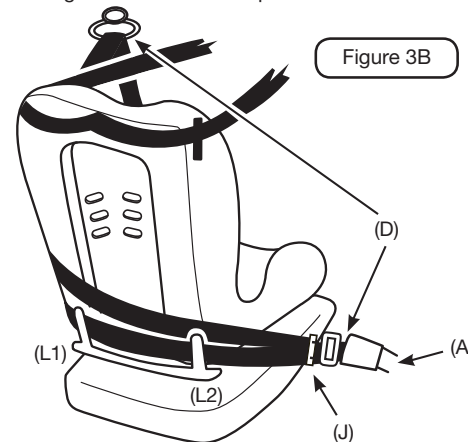

Figure 3B
- Step 4: Feed adult lap or lap/sash belt around the base/backrest of the restraint. Ensure the lap portion only is position behind the fingers (L1 + L2). Engage the buckle tongue assembly (A). Check it is properly engaged. Tighten vehicle seat belt so sash and lap belts are both tight.
- Step 5: Whilst holding the lap belt tight, by pulling up on sash belt continuously, place the red belt clamp on the sash section of the vehicle belt at point (J) in Figure 3B. Point J is as close to the buckle as possible. Refer to figure 3C below for operation of the red clamp.